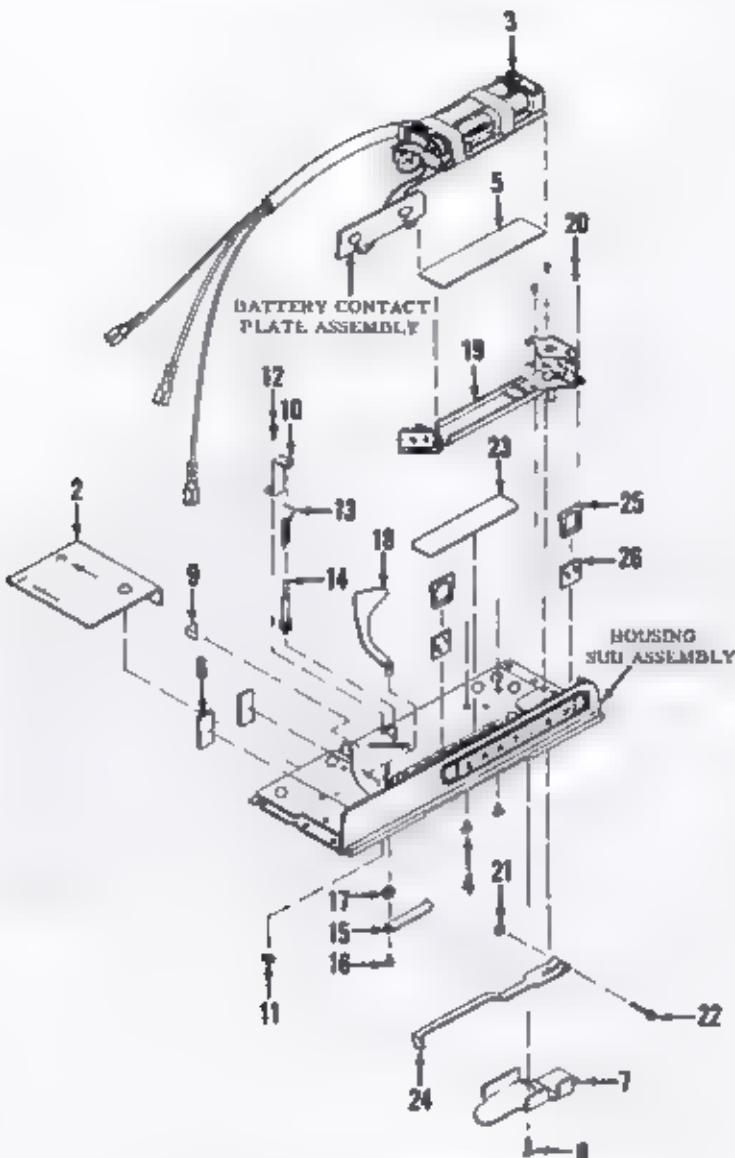

Figure 10. RANGEFINDER HOUSING COMPLETE
V. RANGEFINDER HOUSING COMPLETE - DISASSEMBLY AND REASSEMBLY (Figure 10)
- Remove cemented guard (2).